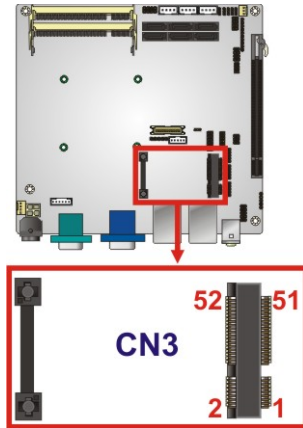

Figure 3-12: PCIe Mini Card Slot Location
- CN Location:** See **Figure 3-12**